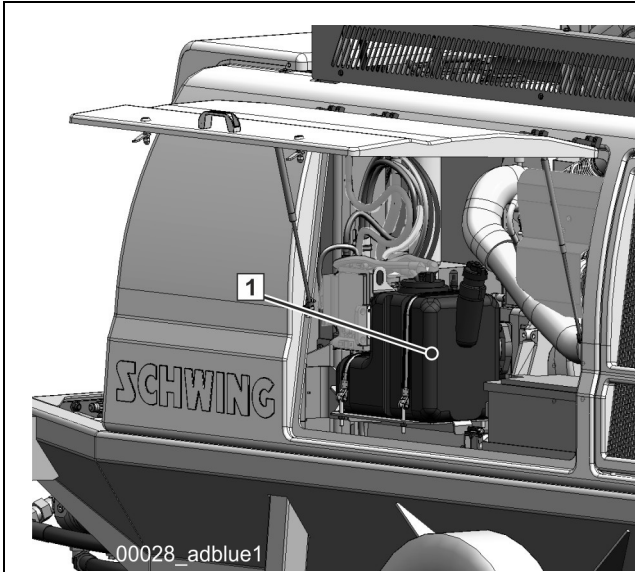

Fig. 38
The AdBlue tank is installed on the left in the direction of travel and can be swung out (1) (**Fig. 38**).